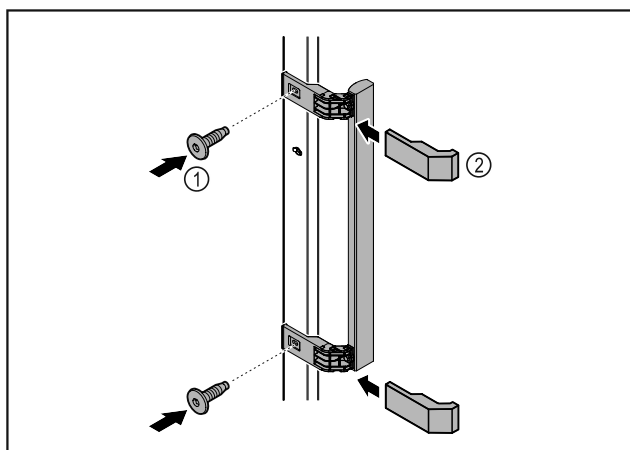

Fig. 44
- Attach handle from accessory kit to the door using the screws supplied Fig. 44 (1).
- Put on cover Fig. 44 (2).